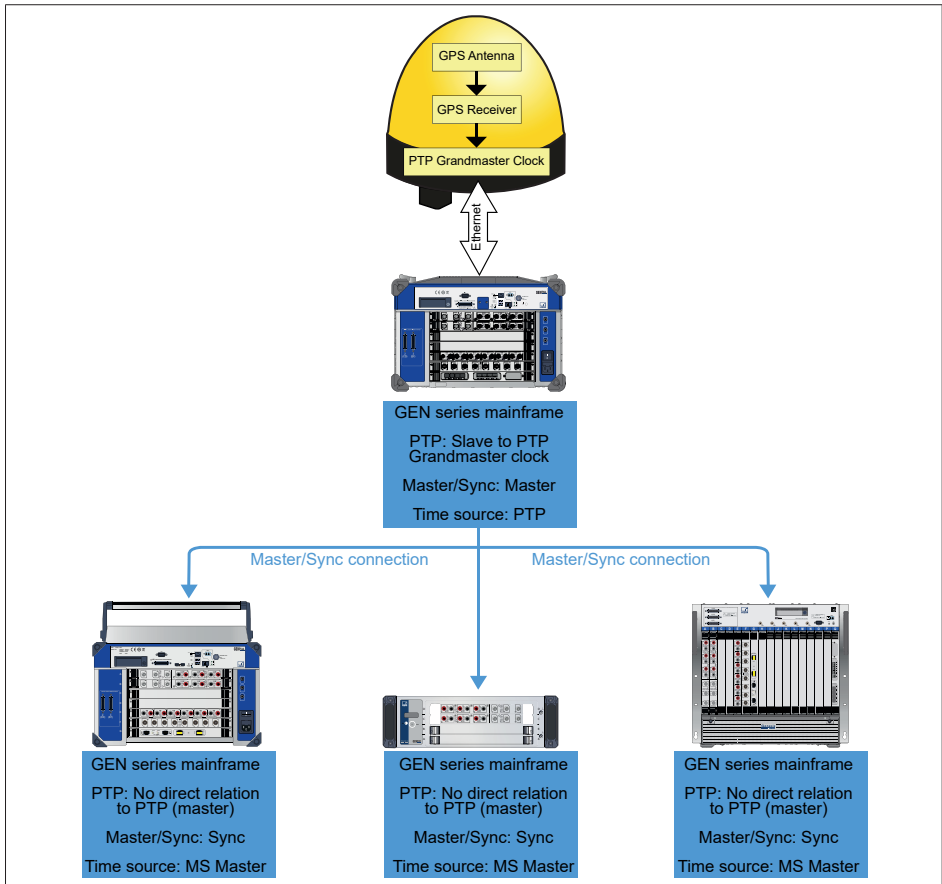

Fig. 14.23 GPS Receiver with Master/Sync connected Sync mainframes
- G002B: GPS Receiver with Master/Sync connected Sync mainframes (see Fig. 14.23)